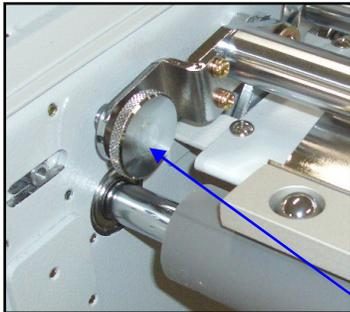

Figure 31a
5. Loosen the two knobs, on each side of the frame that hold the feed arm assembly up (Fig. 31a & 31b). They do not have to be completely removed.